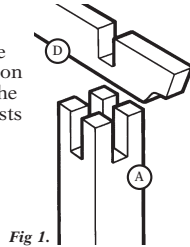

Fig 1.
- 1 Erect Posts (A).** Then slot the two Rafters (D) into a position parallel to each other into the notches in the top of the posts (see Fig.1 right).